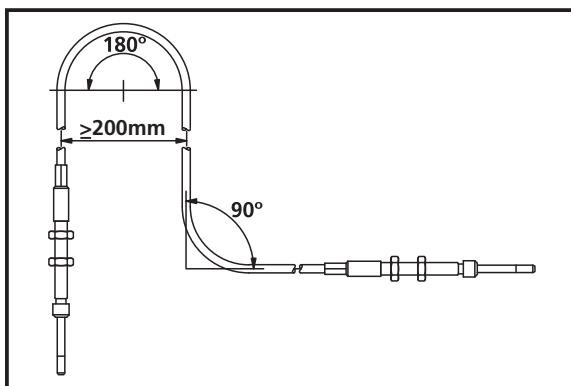

Figure 2.8 Limiter cable
- The maximum total number of bends in the limiter cable will not exceed 270° and the bending radius will nowhere be smaller than 100 millimeters (Figure 2.8)